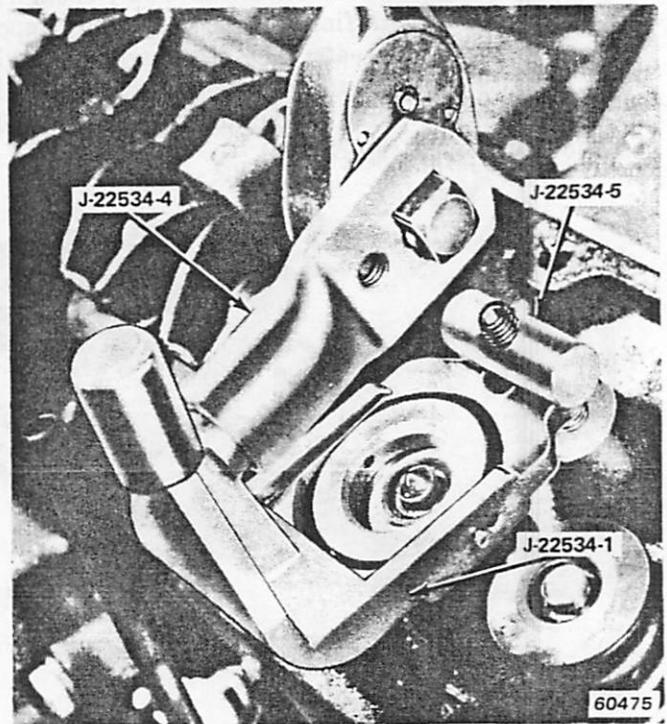

Fig. 1B-109 Valve Spring Removal
- (1) Remove cylinder head cover.
- (2) Remove bridge and pivot assemblies and rocker arms from valves requiring valve spring or oil deflector removal. Remove two capscrews at each bridge. Alternately loosen capscrews, one turn at a time, to avoid damaging bridge.
- (3) Remove push rods.
- (4) Remove spark plug from cylinder that requires valve spring or oil deflector removal.
- (5) Install 14 mm (thread size) air adapter in spark plug hole.
- (6) Connect air hose to adapter and maintain at least 90 psi (620 kPa) in cylinder to hold valves against their seats.
- (7) Use Valve Spring Remover and Installer Tools J-22534-1, J-22534-4, and J-22534-5 to compress valve spring. Remove valve locks (fig. 1B-109).